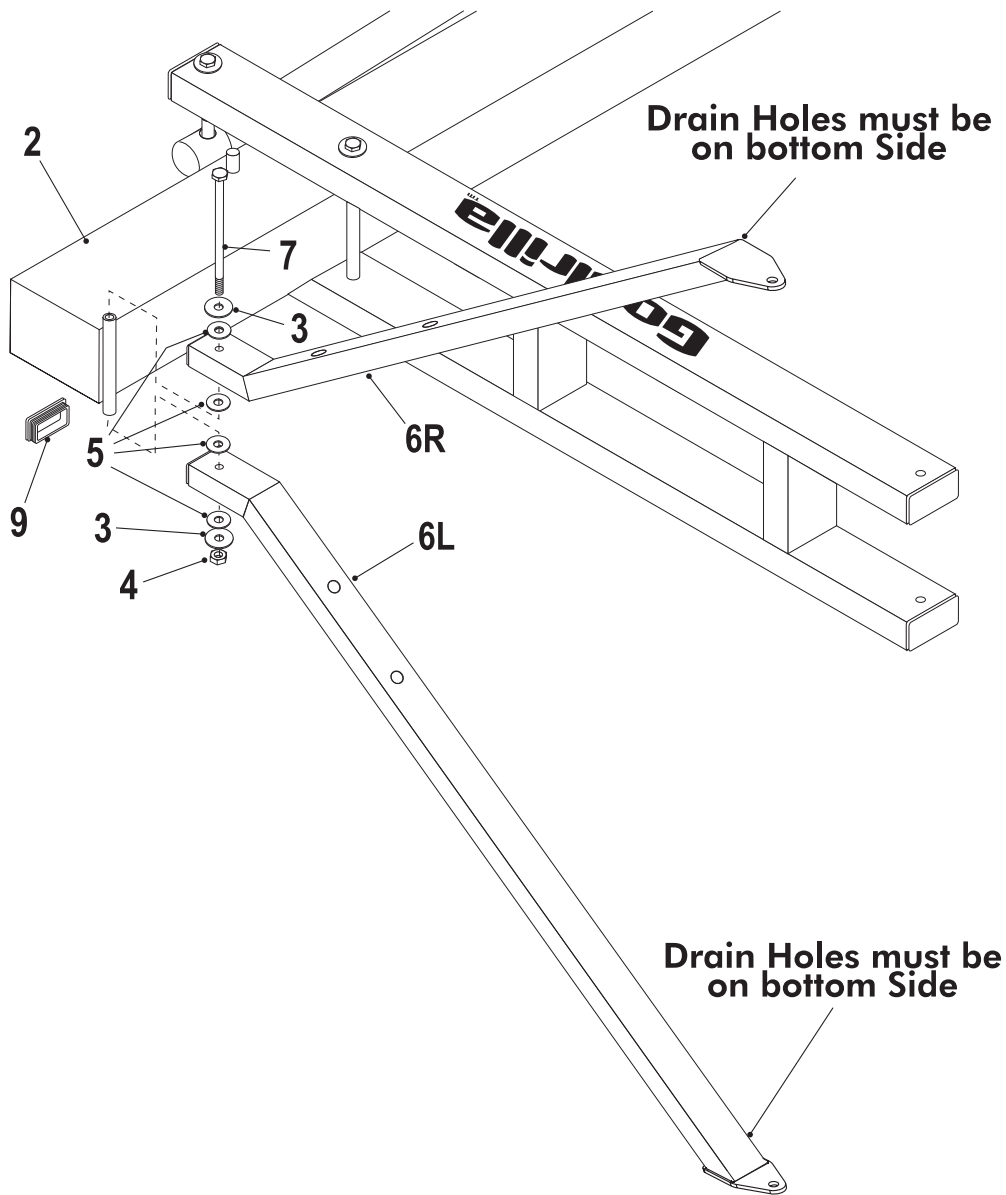

Figure 7
7. Attach Upper Arms (#6L & 6R) to pole (#2), as shown in Figure 7. Using a bolt (#7), two flat washers (#3), four plastic washers (#5) and locknut (#4).